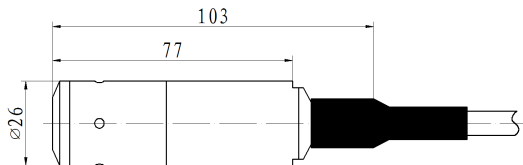

Fig. 1
3.1.1 The transmitter construction to see Fig. 1: